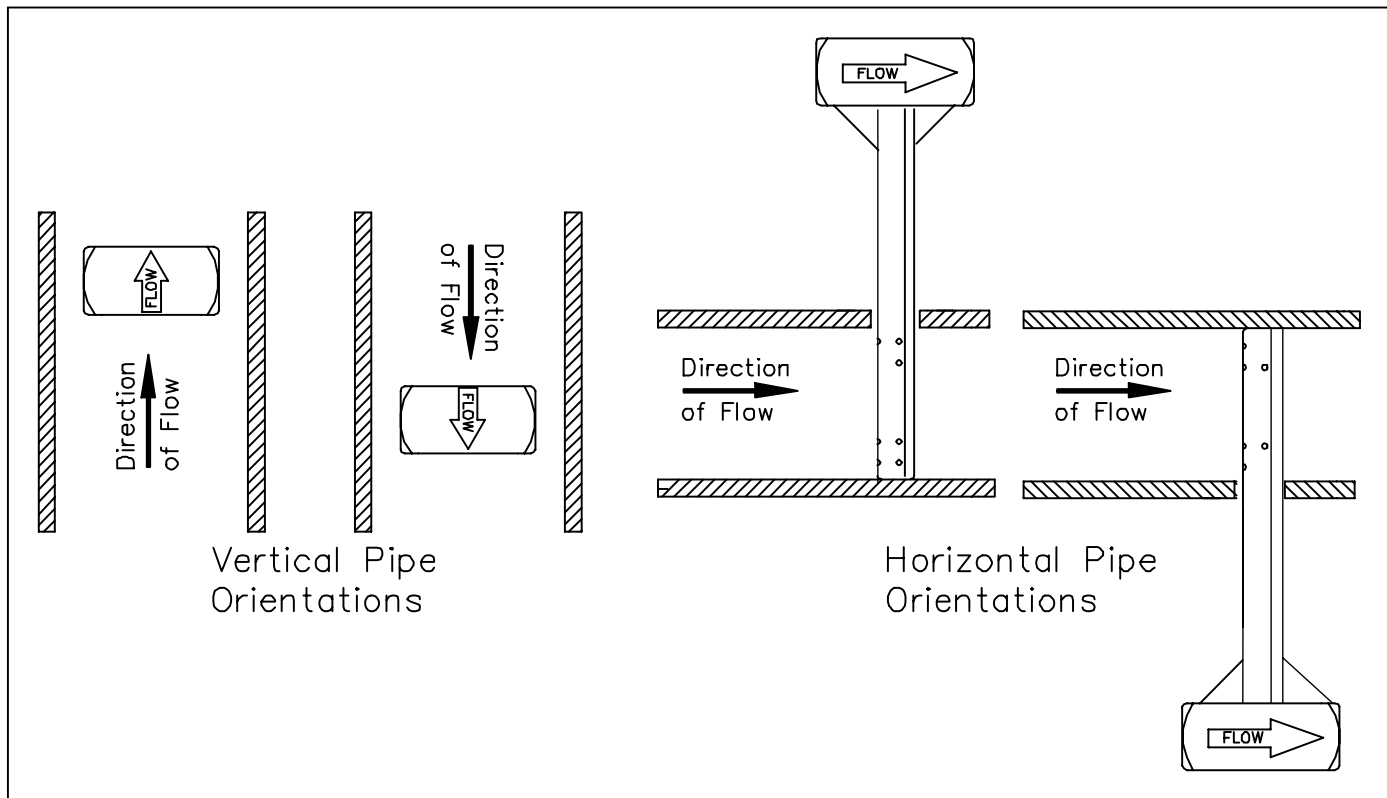

Figure 7. Orientation of Flow Arrow
- Align the head of the sensor so that the arrow labeled "flow" on the head is in the direction of the flow in the pipe to within 3° (see Figure 7). Maintain the head in this position for the remainder of the installation.